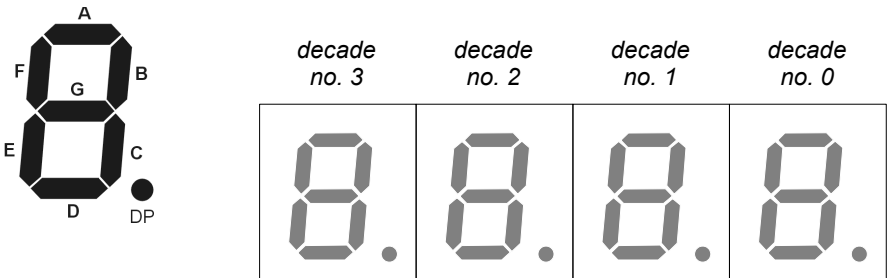

Figure 5.1. Decade and segments layout
- in „**byte mode**“ this register drives directly segments of the display. Higher byte of register 01 drives decade 0 (most right) and lower byte drives segments of decade 1 (see Figure 5.1). While particular bits are set to 1 corresponding segments light (see Tab.5.1). In this mode register accepts values of full range 0000h ÷ FFFFh.
Register 02h - In „**decimal mode**” lower byte of this register defines decimal point position (which decade will display decimal point - see Figure 5.1). Thanks to this function it is possible to display fractional values. For example if value 007Ch (decimal 124) is stored in register 01h, it causes of displaying digits 1, 2 and 4 on suitable positions. If then value 0001h will be stored in register 02h, is will turn on decimal point on decade no. 1, what results by displaying of value " **12.4**", with dimmed most left decade. If value 0003h will be written to reg. 02h then value "**0.124**" will be displayed. Additionally higher byte of register 02h decides about interpretation of reg. 01h value. If higher byte of register 02h equal to 00h, then decimal value of register 01h content will be displayed. If higher byte of register 02h is equal to one of values from Tab. 5.2, then appropriate warning will be displayed (these warnings are defined by producer), and content of register 01h will be ignored.